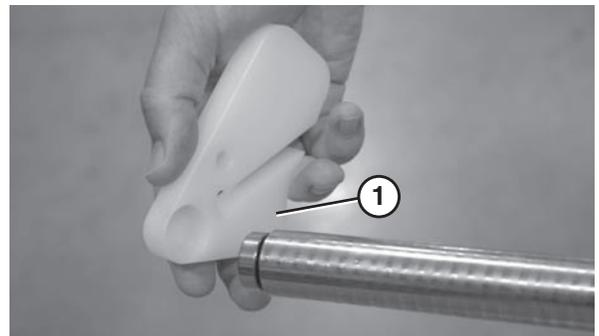

Figure 97
2. Remove the nose bar puck holders (**Figure 97, item 1**).